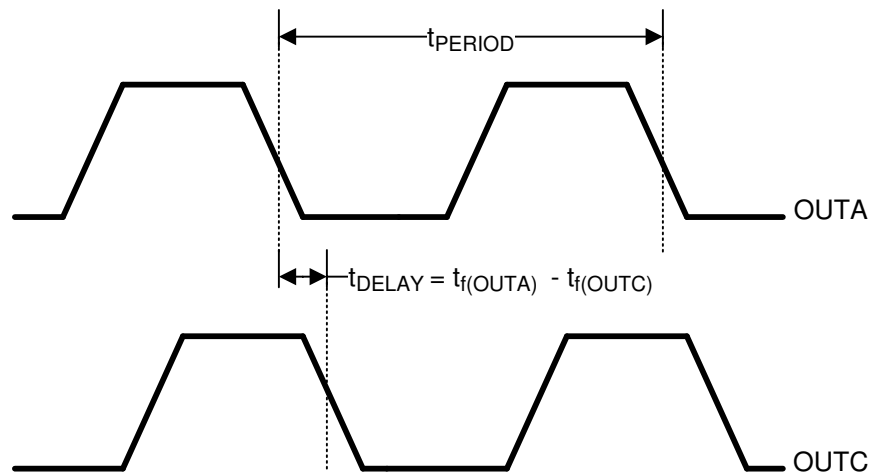
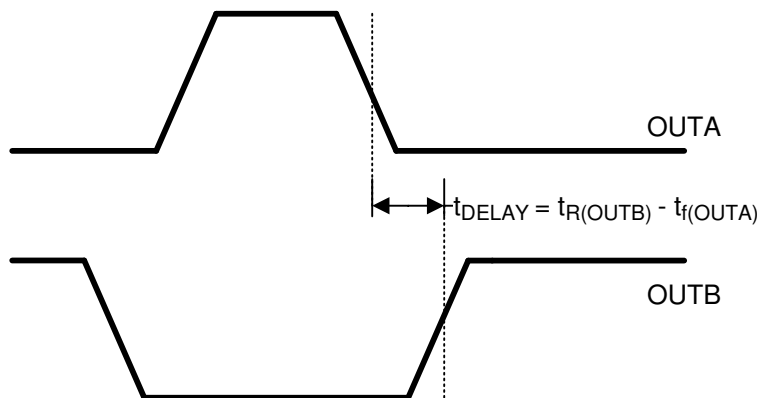

Figure 1. Same Applies to OUTB and OUTD
Figure 2. Same Applies to OUTC and OUTD
(2) Output delay is measured between OUTA and OUTB, or OUTC and OUTD. Output delay is defined as shown below where: $t_{f(OUTA)}$ = falling edge of OUTA signal, $t_{r(OUTB)}$ = rising edge of OUTB signal (see Figure 1 and Figure 2).